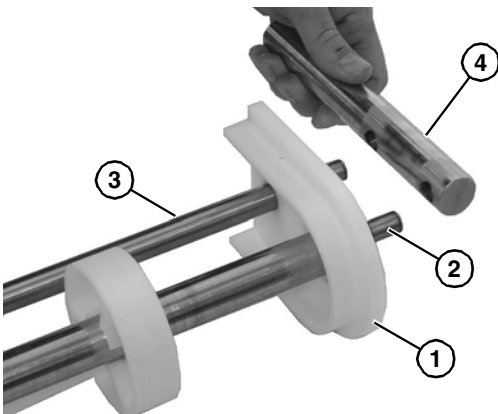

Figure 72
3. Install the pinch guard (Figure 72, item 1) to each side onto idler shaft (Figure 72, item 2) and pinch guard shaft (Figure 72, item 3).
4. Install the bearing end rod (Figure 72, item 4) onto idler shaft (Figure 72, item 2) and rod (Figure 72, item 3).